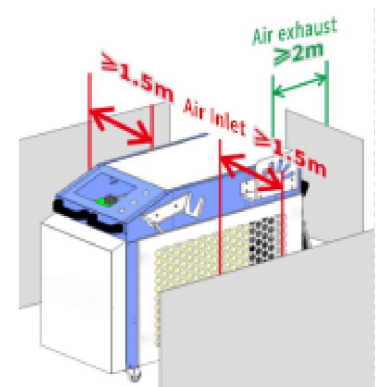

Figure 6-2 Equipment
- There must be no obstructions within 1.5m of the air inlet and 2.0m of the air exhaust to avoid affecting the heat dissipation of the equipment, as shown in Figure 6-2.